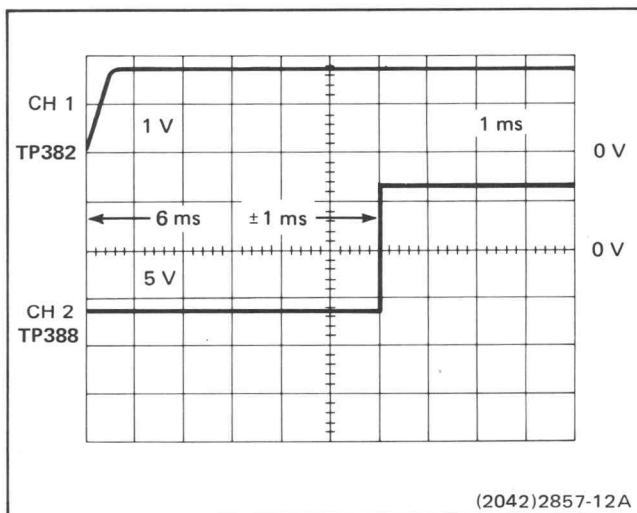

Figure 4-4. QRS timing.
b. **CHECK**—Interval to first positive-going edge at TP382 is 6 ms, ± 1 ms (see Fig. 4-4).